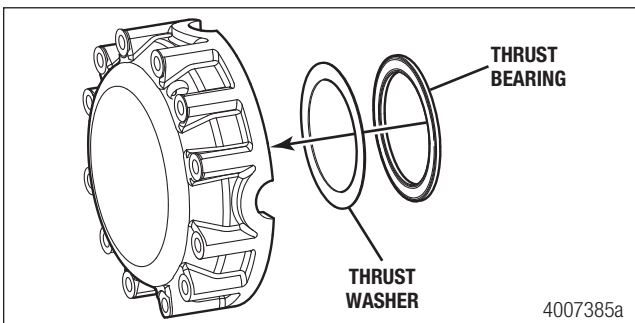

Figure 13.23
2. Install the side gear thrust washer and side gear thrust bearing into the hub cover. Figure 13.23.